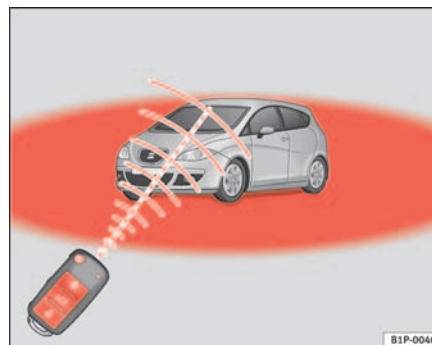

Fig. 64 Range of the remote control
- The remote control functions only when you are in range ⇒ page 98, fig. 64 (red area).